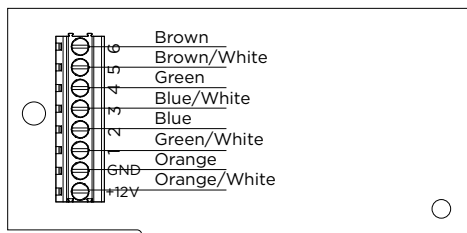

Figure 7: CAT5 Cable on 263EXT Panel Module
1. Connect one end of the CAT5 cable to the terminal on the panel module. See Figure 7. Caution: Observe polarity and make sure wires are installed straight through.